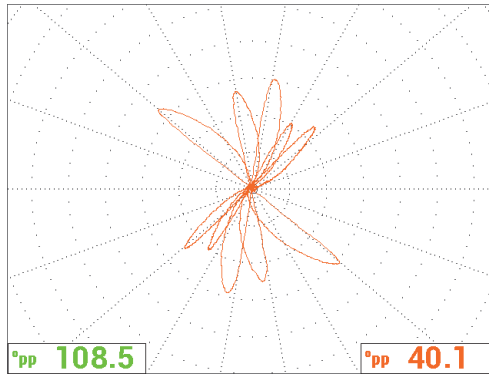

Figure 5-151 The web grid display
4. Press the DISP menu key () again, set the **GRID** (D key) to **WEB**, press the FULL NEXT key () to toggle to the full-screen mode, and then scan the tube. The web grid helps you quickly visualize the signal angle (see Figure 5-151 on page 233).